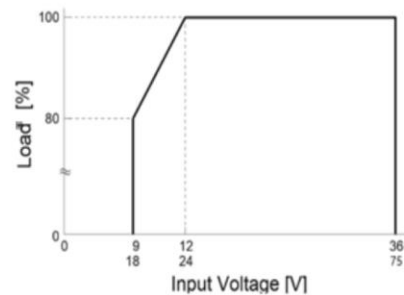

Fig1. Input Voltage Derating Curve
4. For 3.3Vo, 5Vo & ±5Vo has Derating by Input is Required Show Fig.1